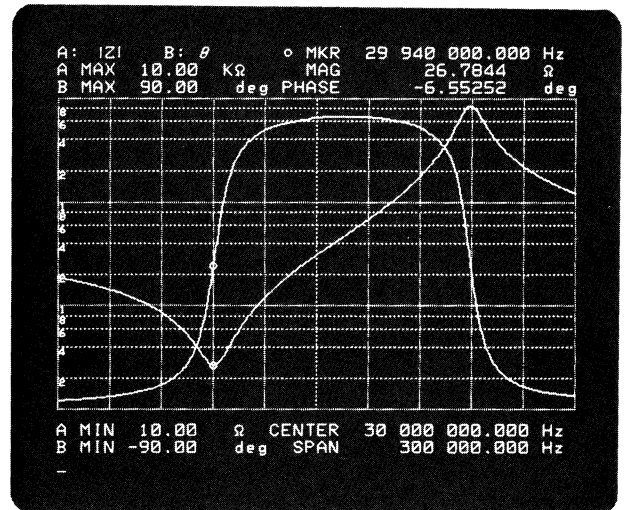

Figure 16. Impedance-Frequency Characteristics of a Ceramic Resonator
MKR → MIN(A) cause the values  $f_r = 29.94\text{MHz}$  and  $Z_r = 26.78\Omega$  to be displayed. (See Figure 16.) In addition, pressing the MKR → MAX(A) key causes the values  $f_a = 30.09\text{MHz}$  and  $Z_a = 8.508\text{K}\Omega$  to be displayed. The electro mechanical coupling coefficient can be found using the following equation.